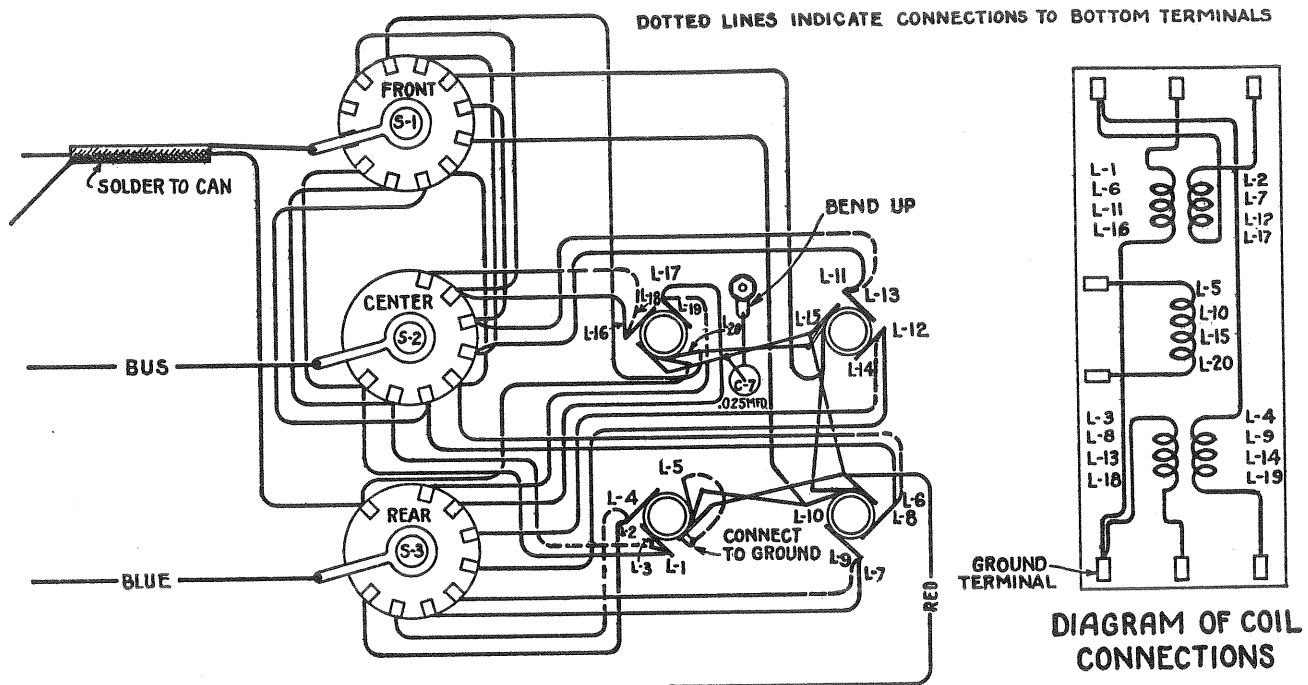

Figure 1—Coil and Switch Assembly
6. Solder the resistors R-4 and R-5 (Figures 2 and 3) in place at the Attenuator Switch and make the necessary connections and grounds in accordance with the diagrams (Figures 1, 2 and 3). New wiring is shown in heavy lines on the General Wiring Diagram (Figure 2). The shielded lead from the coil assembly should pass below the shaft of the tuning capacitor (C-3). The lead to the jack should be spaghetti covered bus wire. The lead from S-6 to R-1 if shielded will give improved performance. The